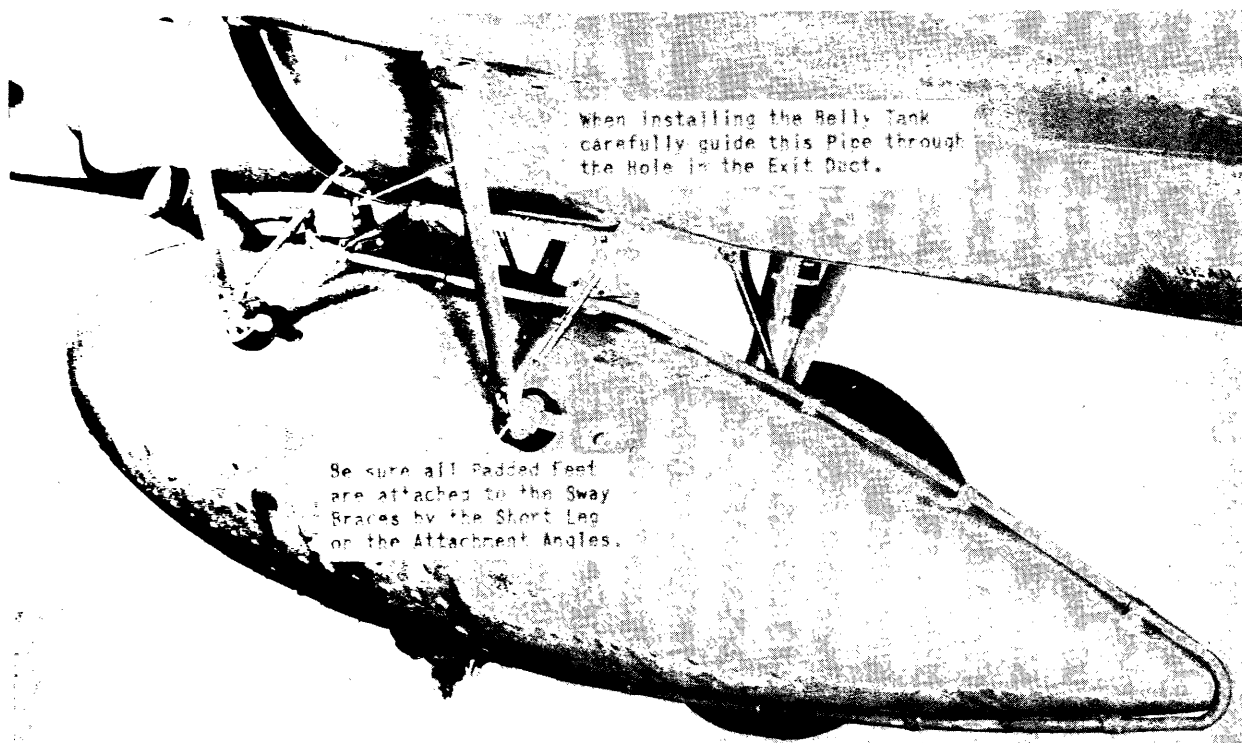

Figure 74 - 52-Gallon Belly Tank Installed
(1) Before moving the belly tank under the fuselage for installation be sure that the front sway brace hinge fittings are in the "Blue" location and that all sway brace feet are attached to the short leg of the fittings as illustrated in figure 74. Install the rubber pads on all the feet and be sure that the long barrels are installed on the front turnbuckles.
(2) Be sure all sway braces are backed off so that they will not foul the tank when raised to install in the shackle.
(3) Unbutton the front tank fuel drain access door on the keel fairing and insert a hand to pull the release lever back until the carrying hooks are open.
(4) With a man at each end of the belly tank, raise the tank and guide the fuel supply line on top of the tank into the synthetic rubber fitting on the bottom of the exit duct forward of the bomb shackle. (See figure 74.)